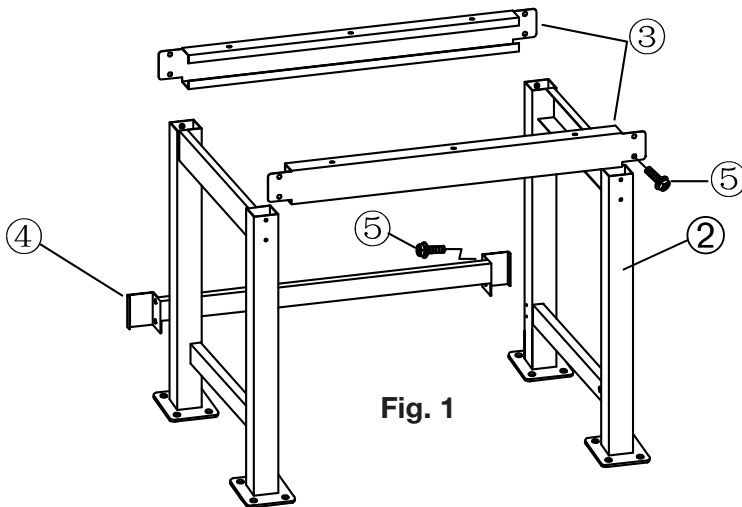

Fig. 1
**Step 1:** As shown in the drawing, put the two legs (2) upright and opposite to each other, and then connect the upper beams (3) to the legs (2) with short screws (5). As shown in (Fig.1).
**Step 2:** Insert the back lower beam (4) into the back legs from the back side, its connecting hole aligned with the lower connecting holes of the legs, and fit it with the short screws (5). As shown in (Fig.1).